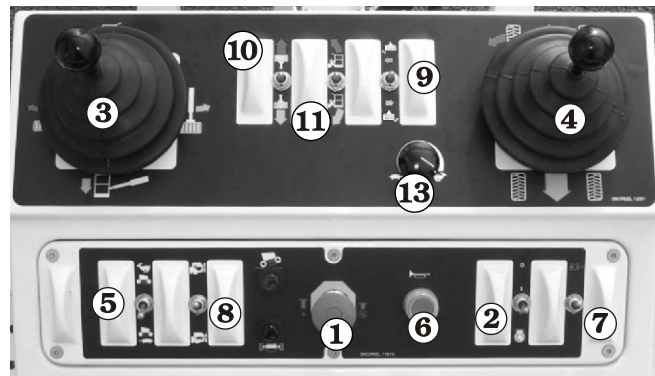

Figure 5.4—Platform Controls, SP20 (Electric Controls)
4. **Drive and Steer Joystick:** The drive and steer joystick (refer to Figures 5.4 and 5.5) controls drive forward and reverse, and steer right and left. The steering and drive functions may be operated simultaneously.